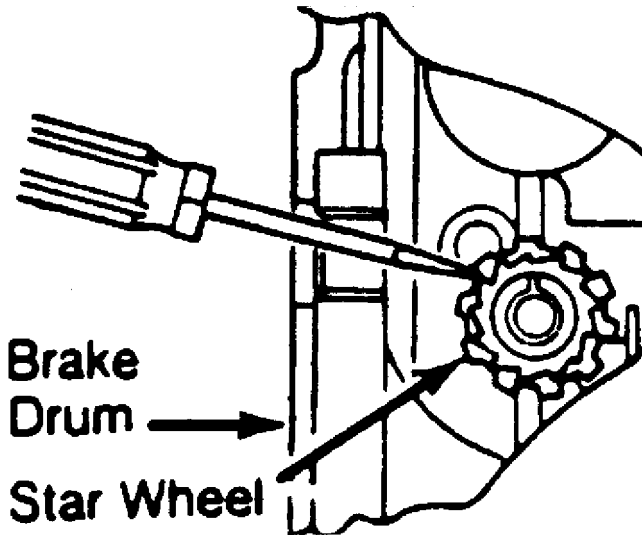

Fig. 1: Adjusting Rear Brake Shoe-to-Drum Position
1) Raise and support rear of vehicle. Release parking brake. Remove rear wheel and star wheel adjusting plug from backing plate. Insert a flat-tipped screwdriver, and rotate star wheel until wheel is locked. See Fig. 1.